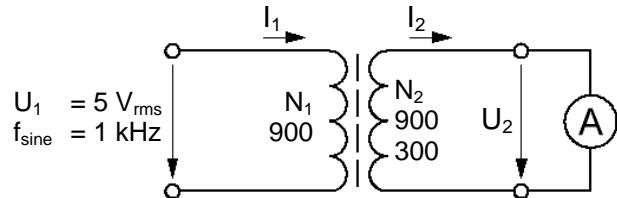

Fig. 18.4.6: Exercise circuit, transformer $N_2=900$ or 300 with core
- Assemble the circuit as shown in Fig. 18.4.6 on the Electronic Circuits Board. First, use the secondary coil with $N_2 = 900$ windings.
- Now, measure the primary and secondary current for both versions of the transformer. Here, the very low internal resistance of the ammeter present a load to the secondary circuit – as shown in Fig. 18.4.6. Enter the measured values in table 18.4.7.